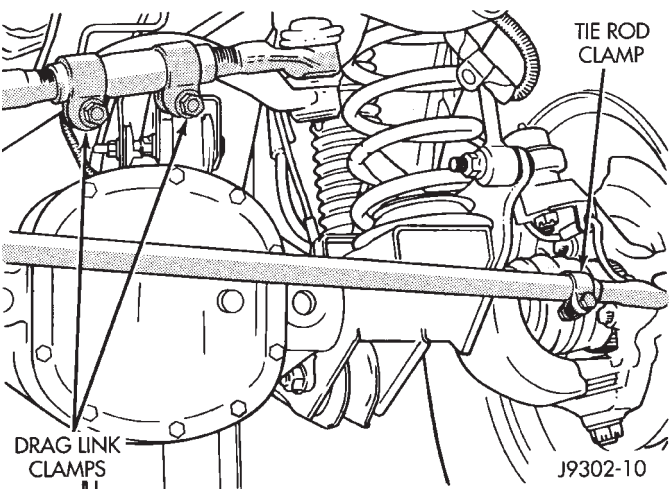

Fig. 4 Drag Link and Tie Rod Clamp Location
clamp bolts as shown (Fig. 4) and tighten to 49 N•m (36 ft. lbs.) torque. **Make sure the toe setting does not change during clamp tightening.**
(4) Adjust the left wheel toe position with the tie rod. Turn the sleeve until the left wheel is at the 0.12 degrees (0.12°) TOE-IN position. Position the clamp bolts as shown (Fig. 4) and tighten to 27 N•m (20 ft. lbs.) torque. **Make sure the toe setting does not change during clamp tightening.**
(5) Verify the right toe setting.